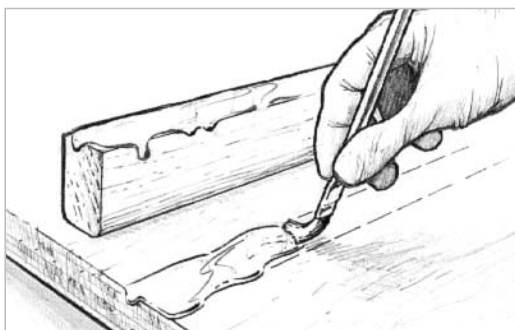

Figure 9-8 Wet out bonding surfaces with unthickened epoxy for maximum penetration and greater adhesion.
1. **Wet-out bonding surfaces**—Apply a straight resin/hardener mixture (without fillers) to the surfaces to be joined (*Figure 9-8*). Wet out small or tight areas with a disposable brush. Wet out larger areas with a foam roller or by spreading the resin/hardener mixture evenly over the surface with a plastic spreader. You may proceed with step two immediately or any time before the wet-out coat becomes completely tack free.